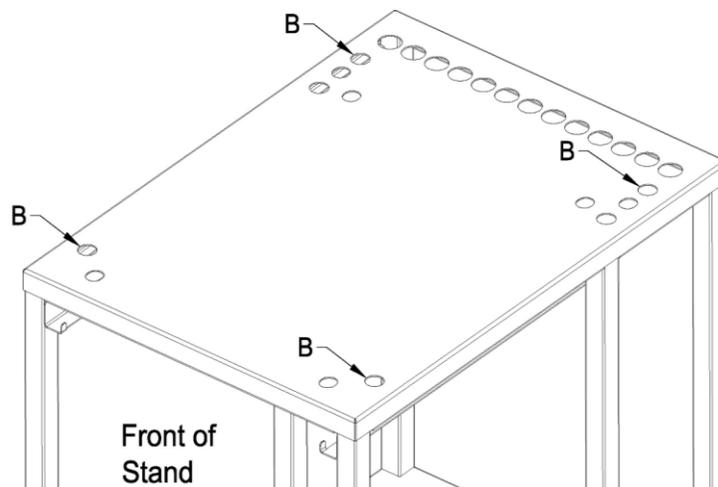

Figure 1
4. Align steamer so that mounting bolts come up through holes marked "B" in Figure 1 below.